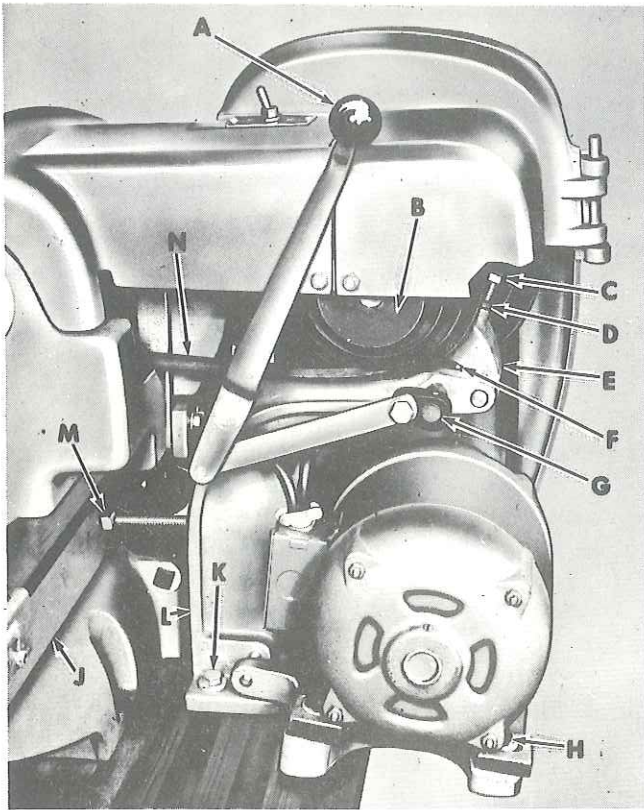

Figure 4
Turn $\frac{3}{8}$ -16 x 3" square head set screw (M, Fig. 4) and jam nut into countershaft bracket (L).
1. Move belt tension lever (A, Fig. 4) to back position and tighten square head set screw (C) until belt is properly tensioned.
2. Place motor on motor base, align motor pulley (D) with and parallel to countershaft pulley (A); then bolt motor in place with screws (H, Fig. 4) (furnished).